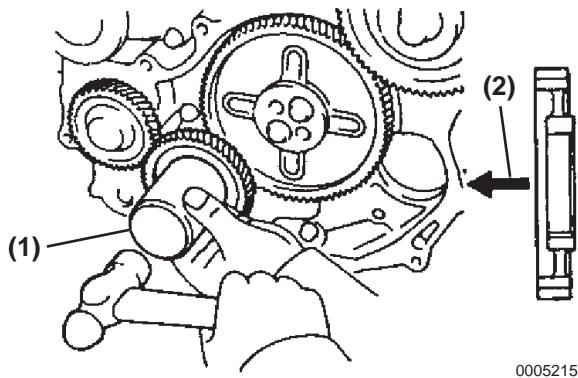

Figure 5-215
12. Tap in the oil pump drive shaft gear, with the front (**Figure 5-215, (2)**) facing out to install using a suitable tool (**Figure 5-215, (1)**).